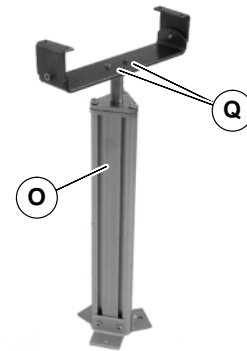

Figure 9
2. Assemble conveyor support (Q of Figure 9) to pillar (O) with M6 screws. Tighten screws to 15 Nm.